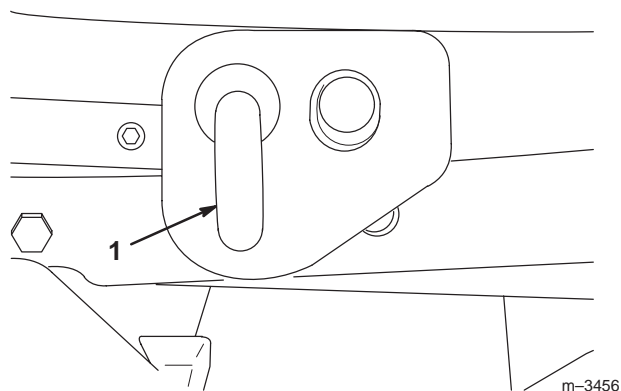

Figure 25
13. Pull the two spring-loaded J-pins from the mower lift arms and twist them slightly so that they stay disengaged (Fig. 25).